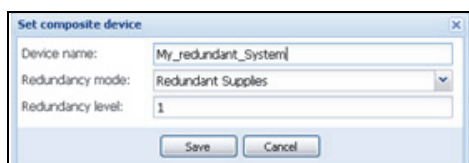

Figure 56. Set Composite Device Dialog Box
4. In the dialog box, specify a device name, redundancy mode, and level (see Figure 56):